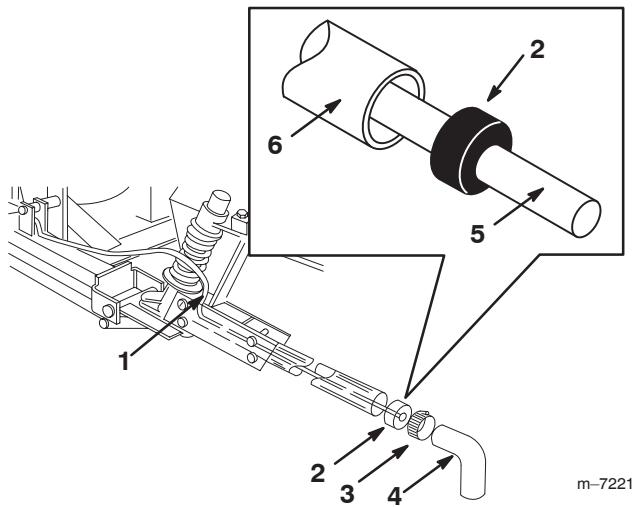

Figure 32
6. Insert the boom hose into the hole drilled in the right boom pipe and push it into the boom pipe until **2 to 3 inches of boom hose extends beyond** the opposite end of the boom pipe (Fig. 32).
7. Push the boom hose through the punched hole boom cap until it **extends 2 to 3 inches past the cap** (Fig. 32).
8. Install the boom cap into the end of the boom pipe (Fig. 32).
9. Lubricate the inside of the extension hose and slide it over the cap and boom hose and onto the boom pipe (Fig. 32).
10. Secure the extension hose onto the boom pipe with a large hose clamp (Fig. 32).